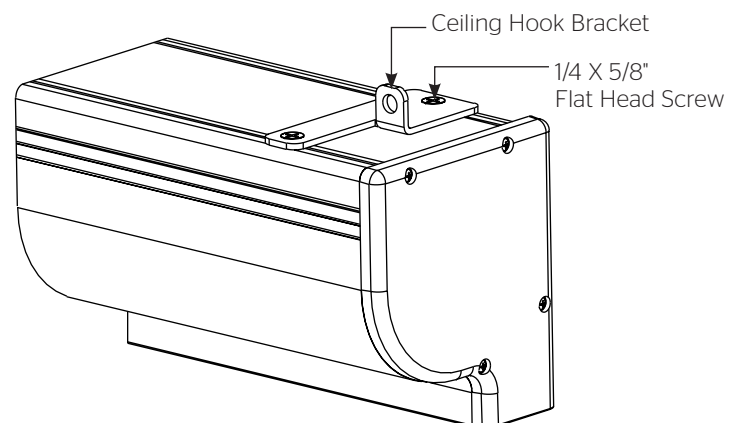

Figure 4
3. The top of the screen case has two channels with threaded nuts that slide the length of the case. Attach the two ceiling hook mount brackets using the 1/4"x 5/8" screws and threaded nuts, two per bracket. The brackets can be attached anywhere within 12" of the ends of the case (Figure 4).